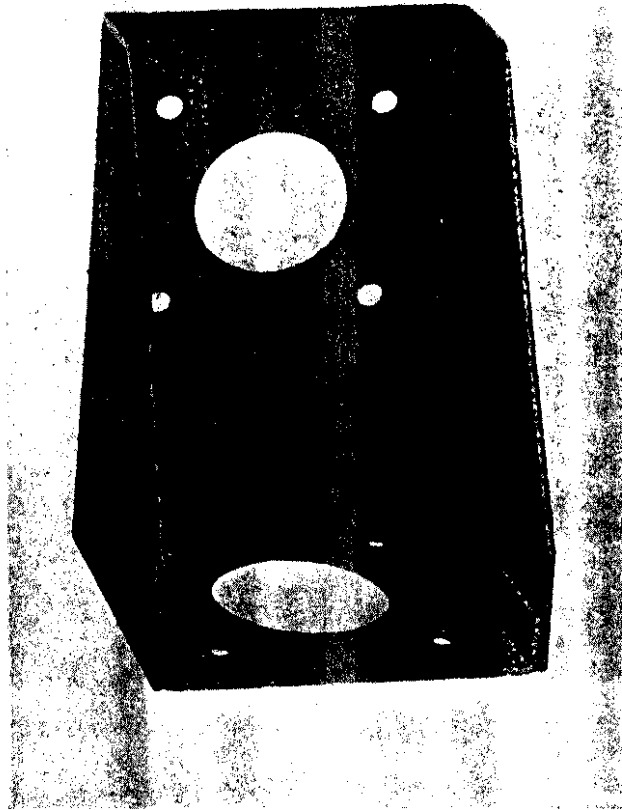

Figure 18. Mast bracket MP-50
e. **MAST BRACKET MP-50** (fig. 18). This is a heavy steel bracket which is used to mount Mast Base MP-65-A-GY on the rear of a vehicle (fig. 49).